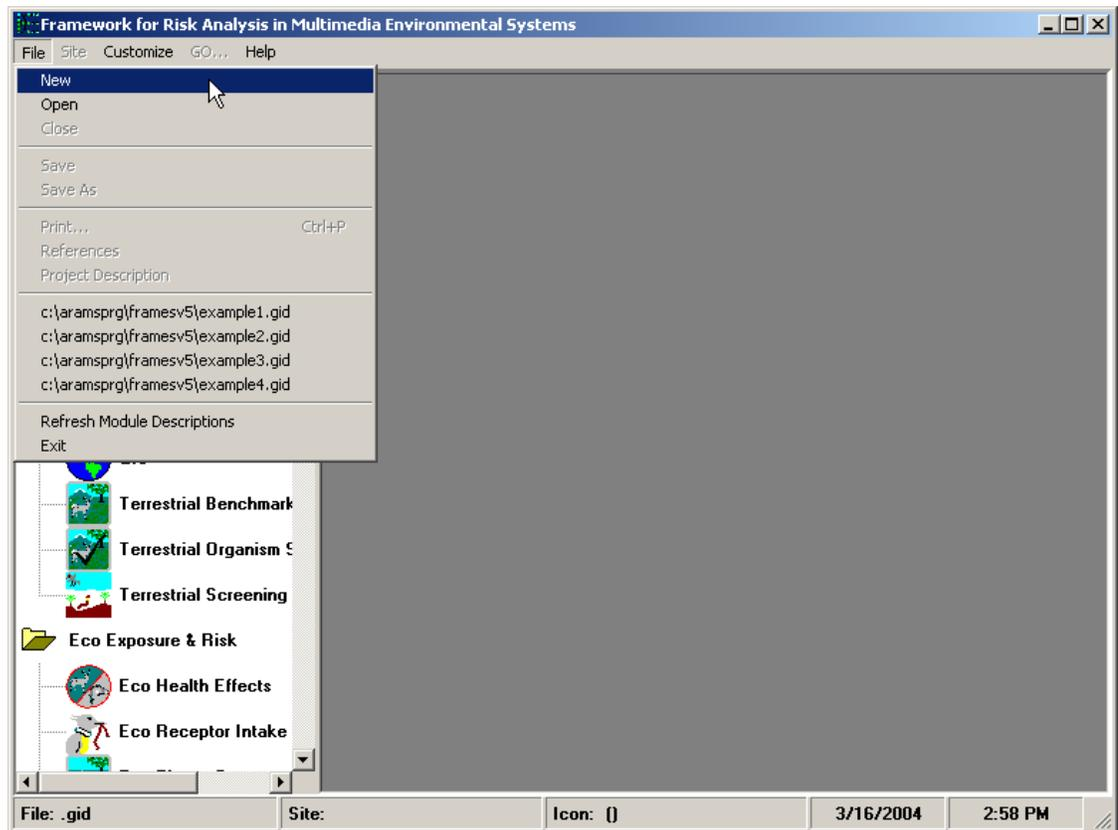
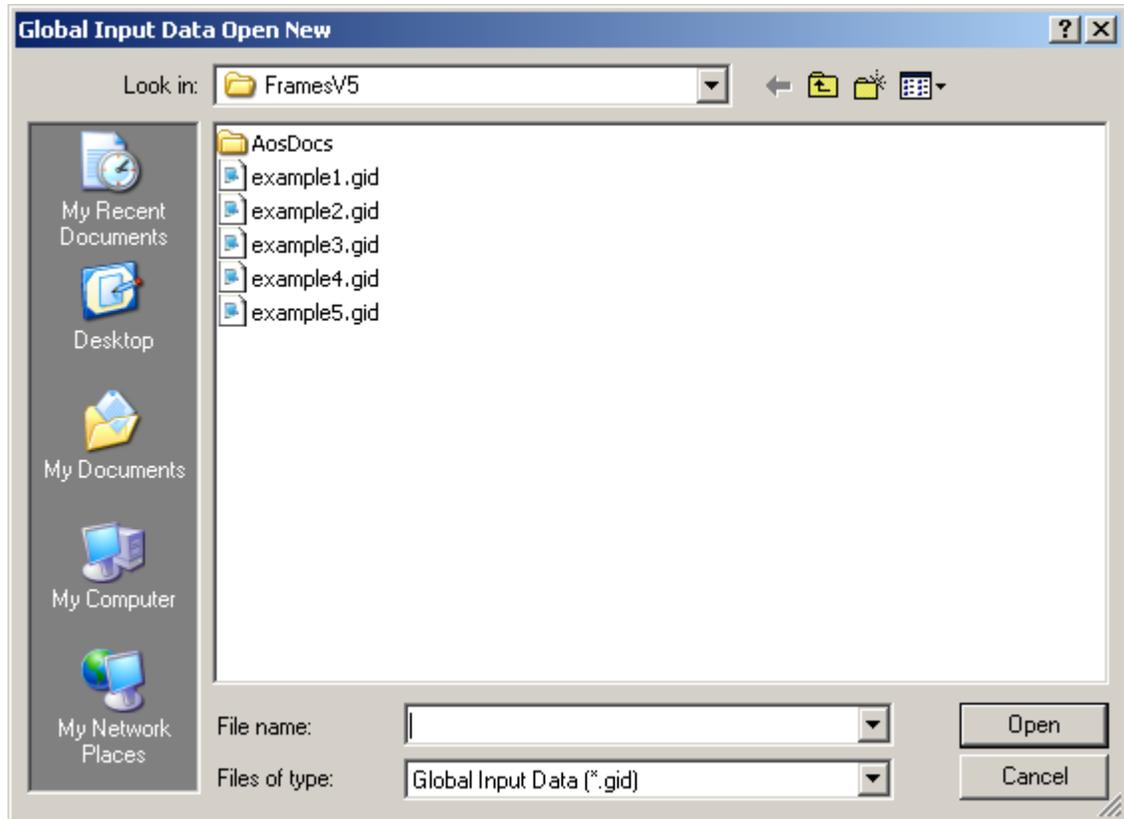
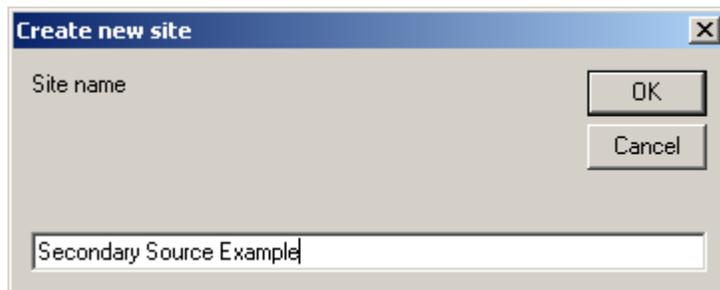

Figure 3. Opening a new file
Figure 4. Global Input Data Open New screen (new file window)
Figure 5. Create New Site screen (input “Site name” box)
- While ARAMS/FRAMES is running, click “File” from the FRAMES menu and choose “New.” A window titled “Global Input Data Open New” will appear (see Figure 3). In the “File Name” box enter the project name (type: “Sample1,” maximum of eight characters) and click “Open” (see Figure 4). **Do not name the new file “Example8” because it will write over the existing “Example8” file that was distributed with the tutorial.** A window titled “Create New Site” will appear. Next, type the project site name (type: Secondary Source Example) and click “OK” (see Figure 5).